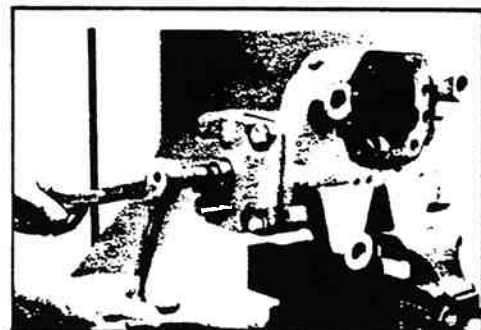

Figure 11-22. Loosening Adjusting Screw.
18. Loosen the worm shaft adjusting screw jam nut (28) with 15/16 inch socket, and loosen the worm shaft preload adjusting screw (27) two turns with a 15/16 Allen socket or screwdriver (figure 11-22). Loosen the poppet adjusting screw jam nut (21) and the poppet adjusting screw (20) two turns.